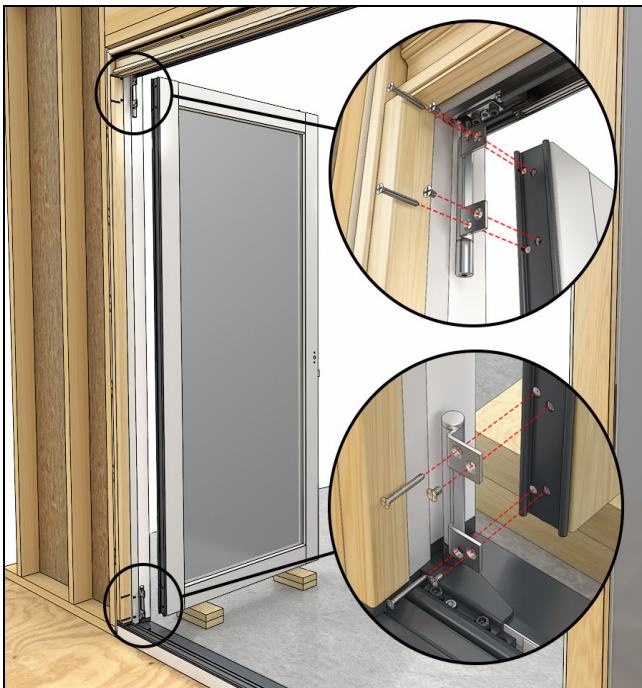

Figure 38
5. Locate the first panel adjacent to the jamb and using a support block, fasten to the hardware numbered 1 or 2, starting on the top and moving down. It is recommended to start with the longer screws if applicable. (Use a screw driver to avoid stripping the screws.) See Figure 38.